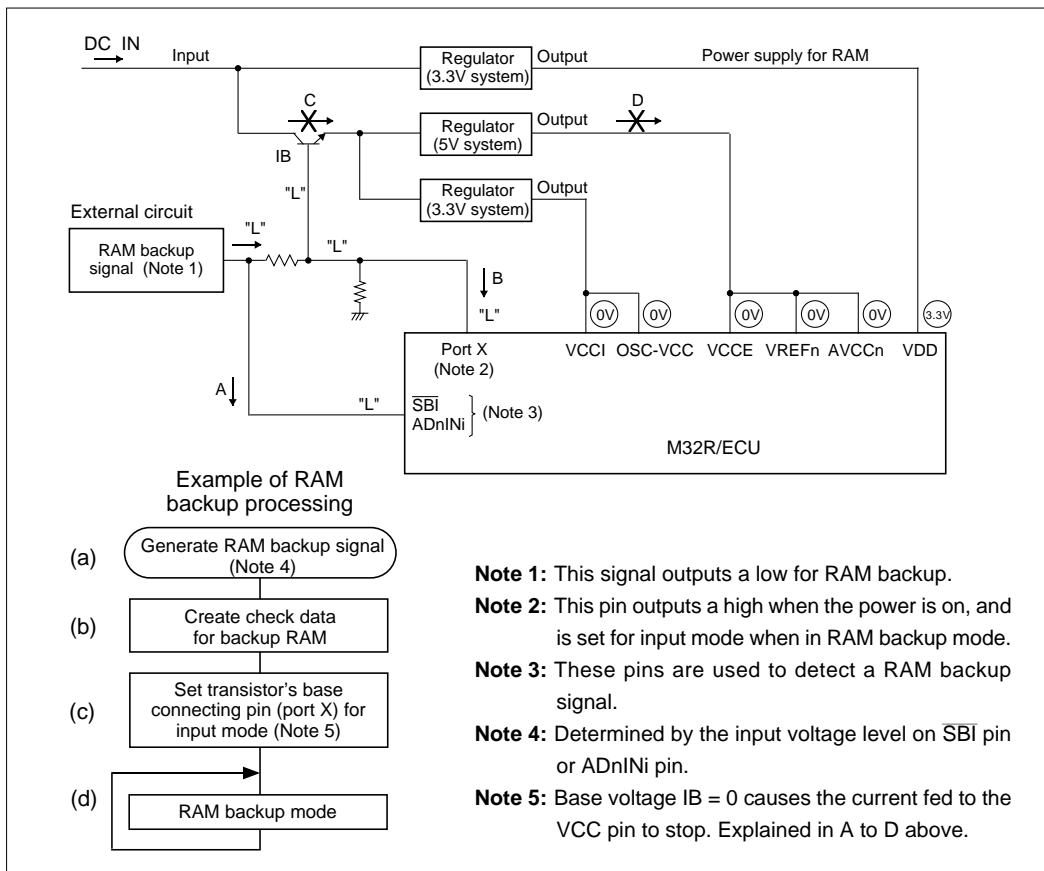
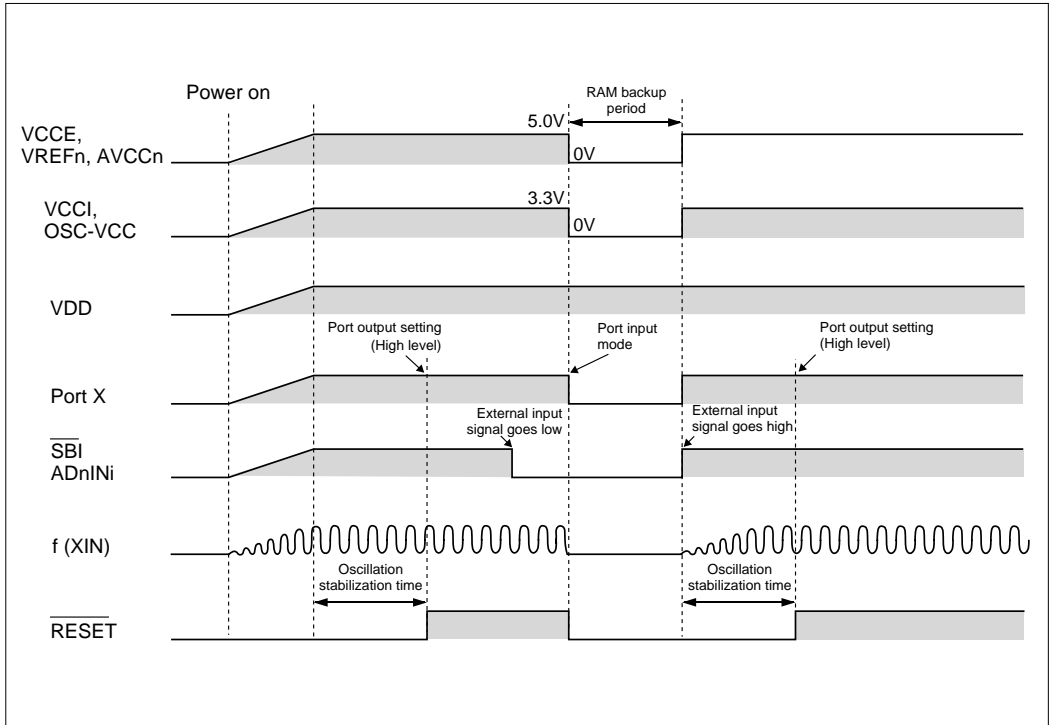

Figure 17.3.3 RAM Backup State for Low-Power Operation
Figure 17.3.4 Example of RAM Backup Sequence for Low-Power Operation
Figure 17.3.3 shows the RAM backup state of the M32R/ECU. Figure 17.3.4 shows a RAM backup sequence. When the external circuit outputs a low, input on the  $\overline{\text{SBI}}$  pin or ADnINi pin goes low. A low on these input pins generates a RAM backup signal (A and (a) in Figure 17.3.3). To enable RAM backup mode, make the following settings.
- (1) Create check data to verify after returning from RAM backup to normal mode whether the RAM data has been retained normally ((b) in Figure 17.3.3).
- (2) To materialize low-power operation, set all programmable input/output pins except port X for input mode (or for output mode, with pins outputting a low) ((c) in Figure 17.3.3).
- (3) Set port X for input mode (B and (d) in Figure 17.3.3). This causes the transistor's base voltage, IB, to go low, so that no current flows from the power supply to the VCC pin via the transistor (C in Figure 17.3.3). Consequently, the power to the VCC pin is shut off (D in Figure 17.3.3).